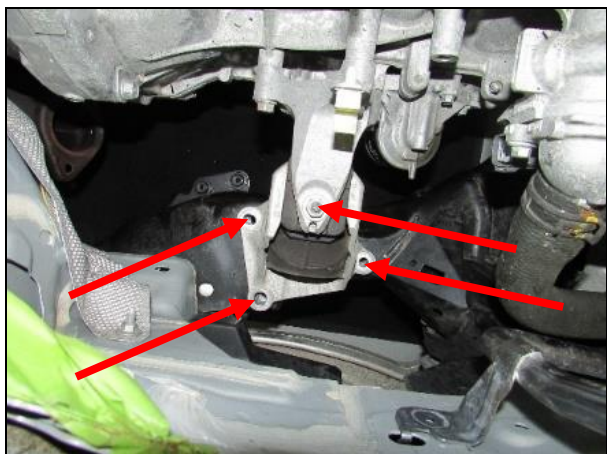

Figure 13
3. Slide in the OEM motor mount and tighten (x3) 14mm head bolts and (x1) 14mm head nut. Remove the screw jack out from under the car (**Figure 13**).